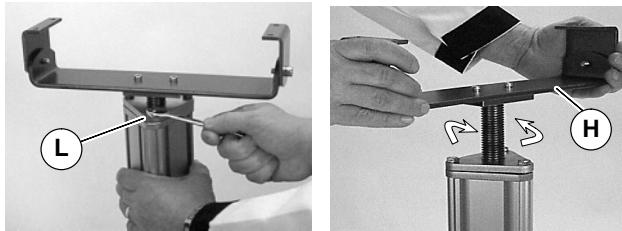

Figure 6
1. Loosen three post bolts (L of Figure 6). Adjust conveyor support (H).
1. Loosen jam nuts (M of Figure 6). Adjust foot pads (N) to level stand.